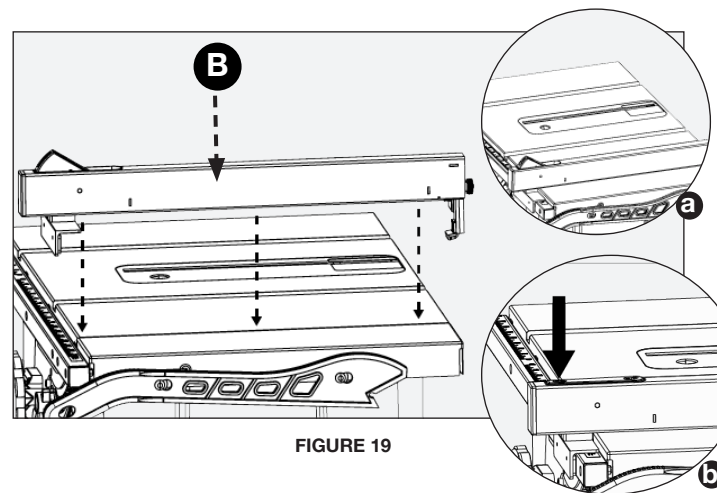

FIGURE 19
Position rip fence (B) over the table as shown in Fig. 19. Lower the rear end of the rip fence (B) over the back of the table; then lower the front end (with lock handle) over the front of rail on the front of the saw. Engage lock on the rip fence after placing fence in desired location on the table (Fig. 19).